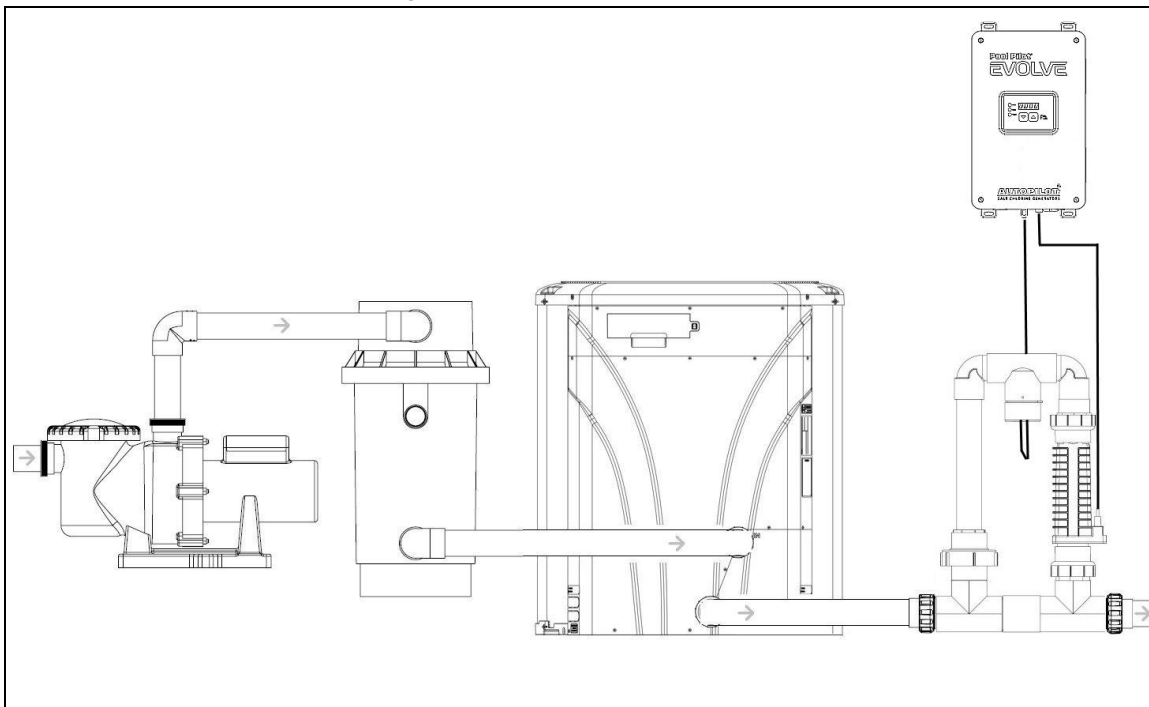

Figure 1
- A standard manifold installation is shown in **Figure 1**.